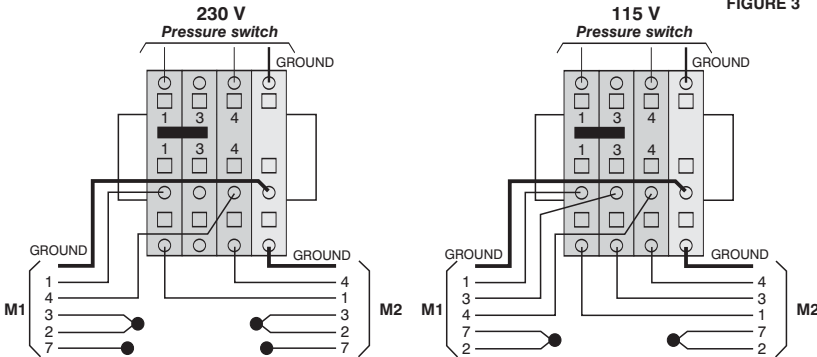

FIGURE 4 - ELECTRIC DIAGRAM
4.10 Figures 4 and 5 show change tension.